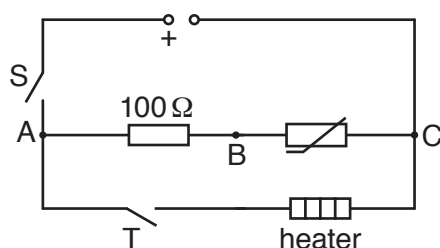

Fig. 4.3
4. The $100\ \Omega$ fixed resistor (e.g. RS component 707-7587) is part of a circuit shown in Fig. 4.3 which must be set up by the supervisor.
At the changeover the supervisor must ensure that the apparatus is returned to the arrangement shown in Fig. 4.3. The heater and thermistor assembly should remain inside the ball of Blu Tack. However, it should be disconnected from the circuit and replaced by an identical assembly, also encased in Blu Tack that is at room temperature. The original assembly should be placed away from candidates so that it has time to cool down to room temperature so that it can be used in later experiments. This means that a spare set of the heater and thermistor assembly will be required.